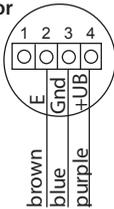

Fig. 12
2. Connection of the wiring cables in the sensor is shown on the fig.12.